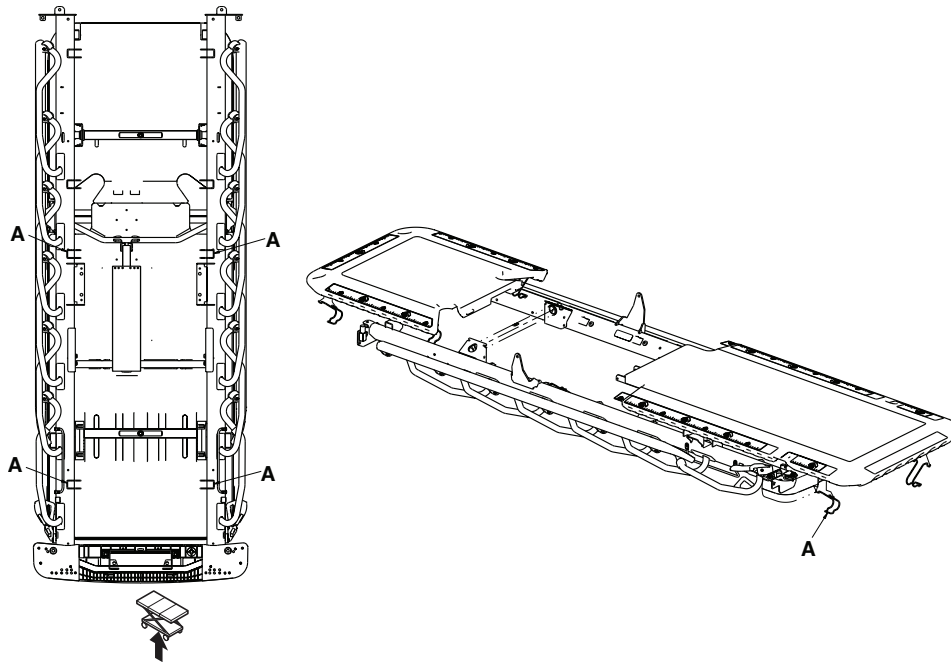

Figure 57 – X-ray panel replacement-foot end
- Unclip the four spring clips (A) (below the litter frame) that secure the foot end X-ray cassette panel to the litter frame (Figure 57).